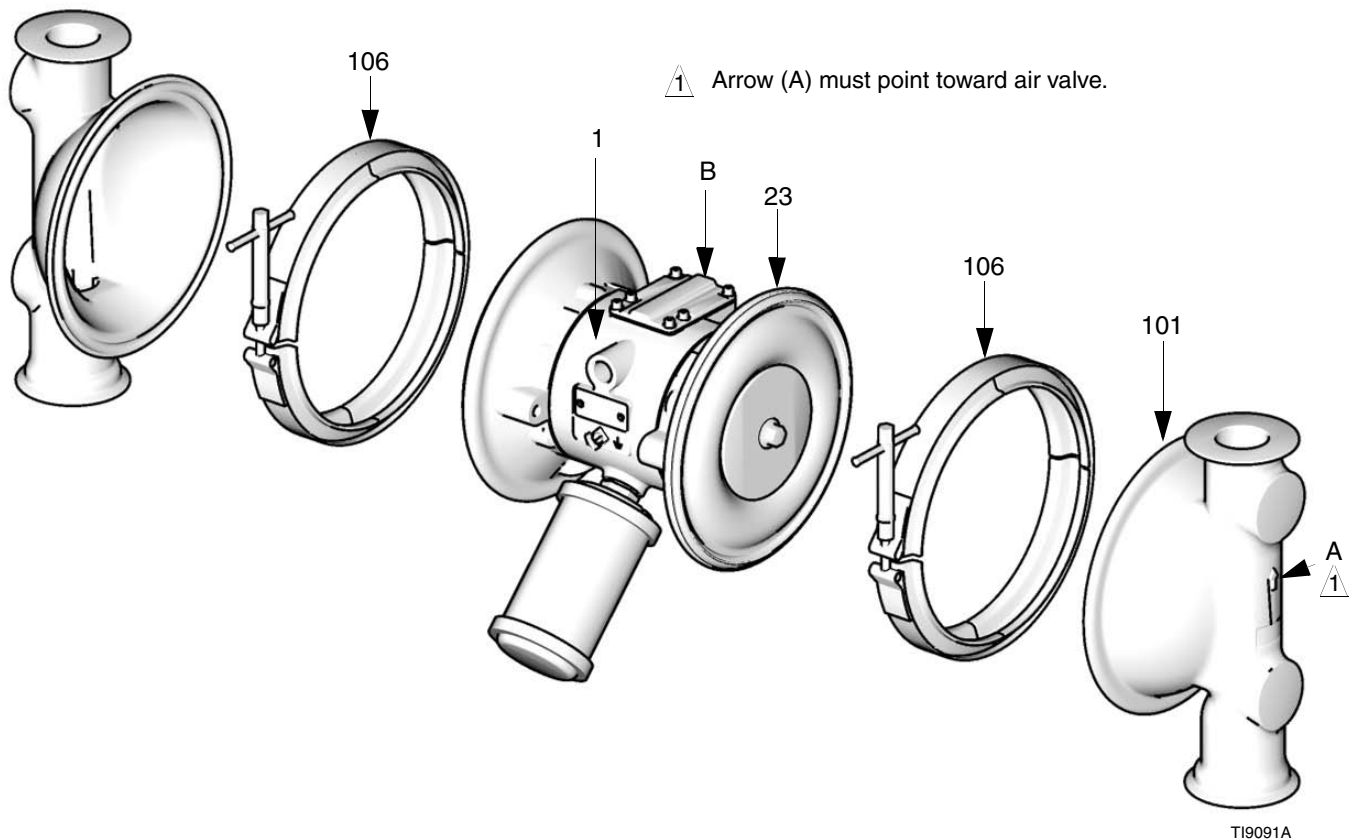

FIG. 10
3. Remove the clamps (106) holding the fluid covers (101) to the air covers (23). Pull the fluid covers (101) off the pump. See FIG. 10.
- d. On PTFE models only, install the backer (401*) on the bolt. Make certain the side marked AIR SIDE faces the center housing (1).
- e. Install the air side diaphragm plate (104) so the rounded side faces the diaphragm (401). This plate is stamped with its part number.
- f. Apply medium-strength (blue) thread locker to the bolt (107) threads. Screw the bolt into the shaft (24) hand tight.
3. Grease the length and ends of the diaphragm shaft (24), and slide it through the housing (1).
5. Hold one shaft bolt (107) with a wrench and torque the other bolt to 81-95 N•m (60-70 ft-lb) at 100 rpm maximum.
6. Align the fluid covers (101) and the center housing (1) so the arrows (A) on the covers face the same direction as the air valve (B). Secure covers with the clamps. See FIG. 10.